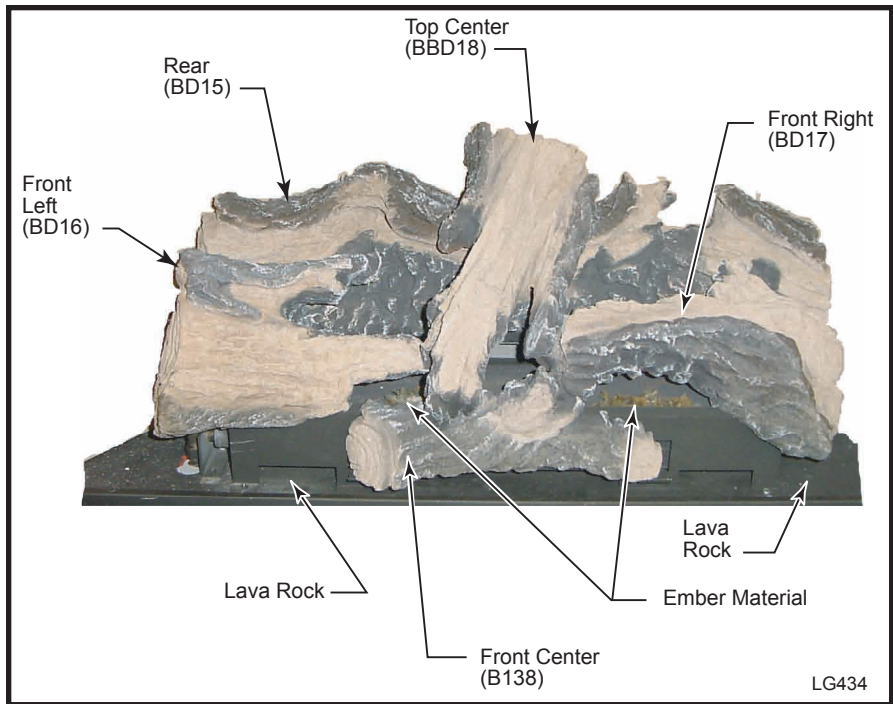

Fig. 40 Correct log placement for 43LDVT.
5. Scatter the ember material over the tiles on the front area of the burner housing. (Fig. 40) Do not pack the ember material. Separate it when unpacked and keep it in a fluffy and loose condition for a more realistic ember effect.